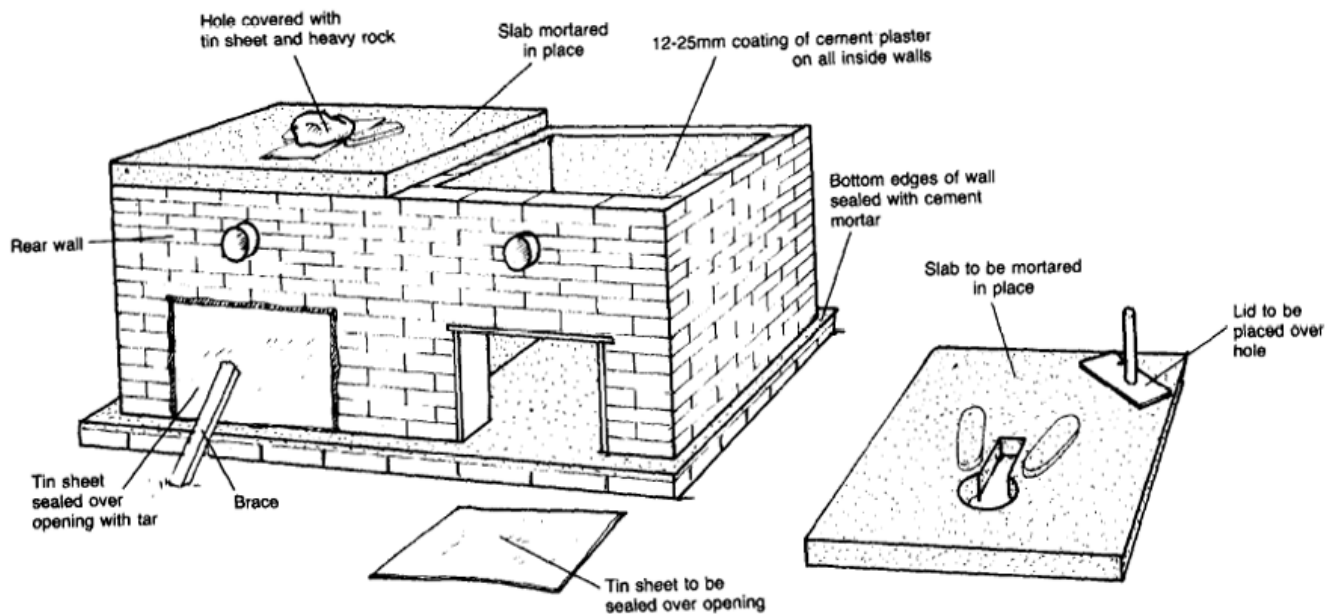

Figure 9. Brick and Mortar Walls Completed
7. Coat the insides of the walls with 12-25mm of cement plaster. Seal the bottom edges of the walls, inside and outside, with cement plaster. See figure 9.